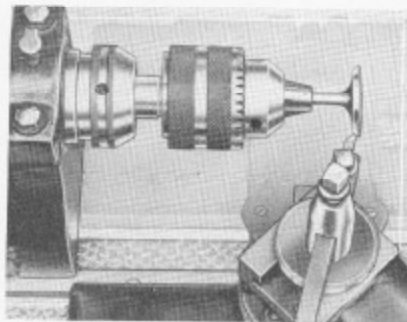

Fig. 34. Holding a Model "A" Ford new type valve with large End on Stem
**Valves Without Center Hole in the Head.**—The above illustration shows a valve without a center hole in the head. There are two methods of refacing this type of valve in the lathe. One is to hold the valve in a hollow spindle drill chuck mounted in the lathe as shown in Figure 34. The spindle of this drill chuck being hollow permits the valve stem to pass through as far as desired, the chuck then grips the valve stem as near the valve head as possible and the operator proceeds to reface the valve as described in the previous pages.